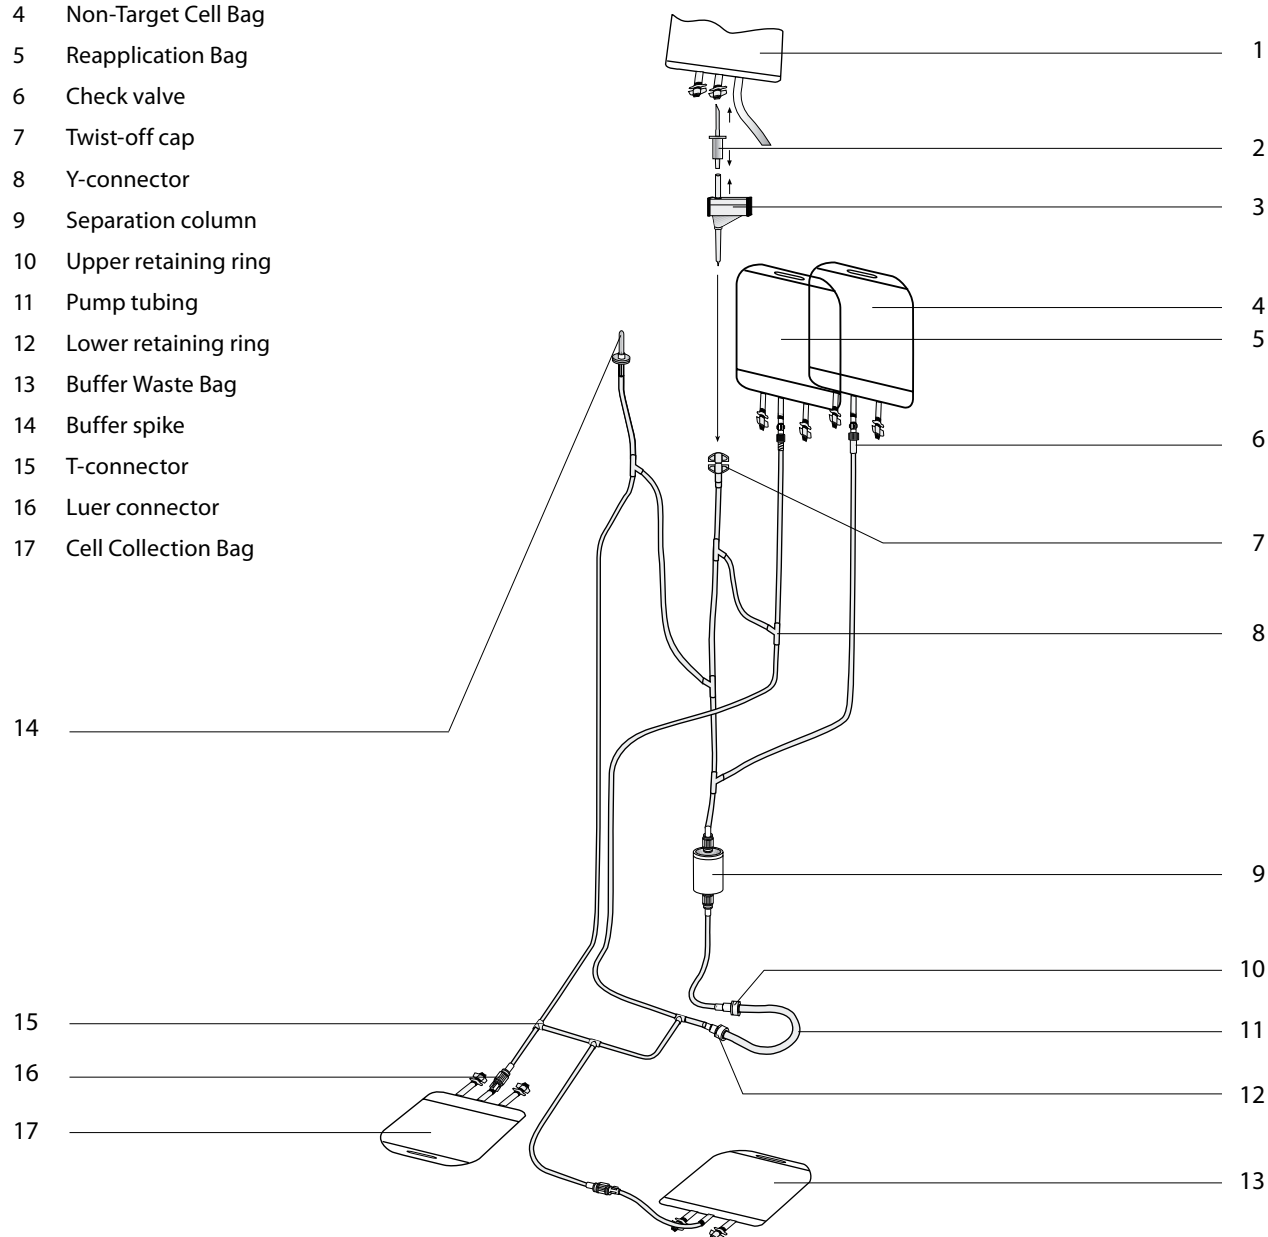

Figure 32: General construction of a CliniMACS® Depletion Tubing Set for Research Use (# 266-01).
The CliniMACS® Depletion Tubing Set for Research Use is provided in a sealed, sterilized package. Each tubing set contains pre-assembled tubings, column, and bags for one cell separation (see fig. 32). When the packaging is intact, a sterile fluid path is provided.
1. Using aseptic techniques, remove the cap from the buffer spike (14, fig. 32) on the tubing set and connect it to the buffer bag. Ensure that the septum is punctured, allowing free flow of liquid. Gently squeeze the bag to ascertain that the spike has penetrated the bag. If more than one liter buffer is necessary for a separation, connect the buffer bags using a plasma transfer set.
During the priming phase the tubing set is filled with CliniMACS® PBS/ EDTA Buffer for Research Use. The buffer will be circulated through the tubing set including the separation column. Priming waste is collected in the Buffer Waste Bag, Reapplication Bag, and the Non-Target Cell Bag (13, 5, and 4, fig. 32). The priming cycles will continue, repeating a series of steps. The priming phase will take approximately 2.5 minutes. Priming status will be updated on the display.